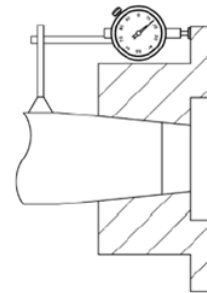

Figure 4 - Dial indicator placement for axial draw measurement example.
- 7.5. Mount a dial indicator to read axial hub advancement, as shown in Figure 4. Alternatively, the indicator can be positioned to contact the end of the hub. Set the indicator to "zero".